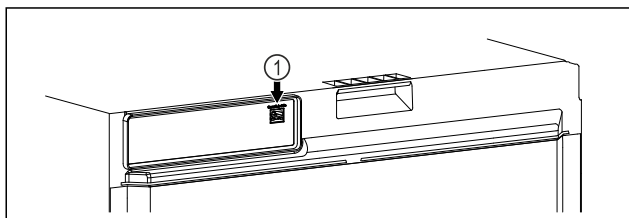

Fig. 117
- ❑ SmartModule Fig. 117 (1) is inserted.